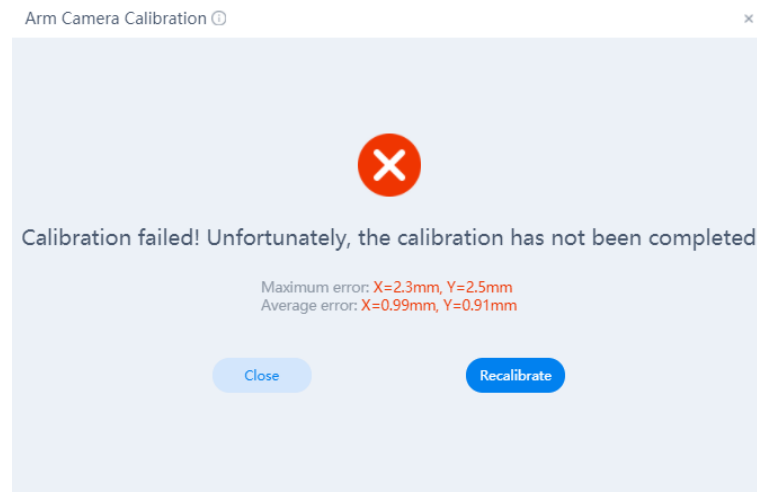

Figure 4.38 Failed to be calibrated
- Figure 4.38 shows that you failed to calibrate. You need to recalibrate the camera.